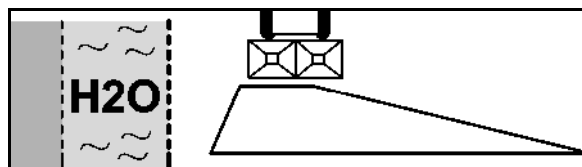

Fig. 61
2. Ditch spreading in accordance with fertiliser ordinance (Fig. 61):